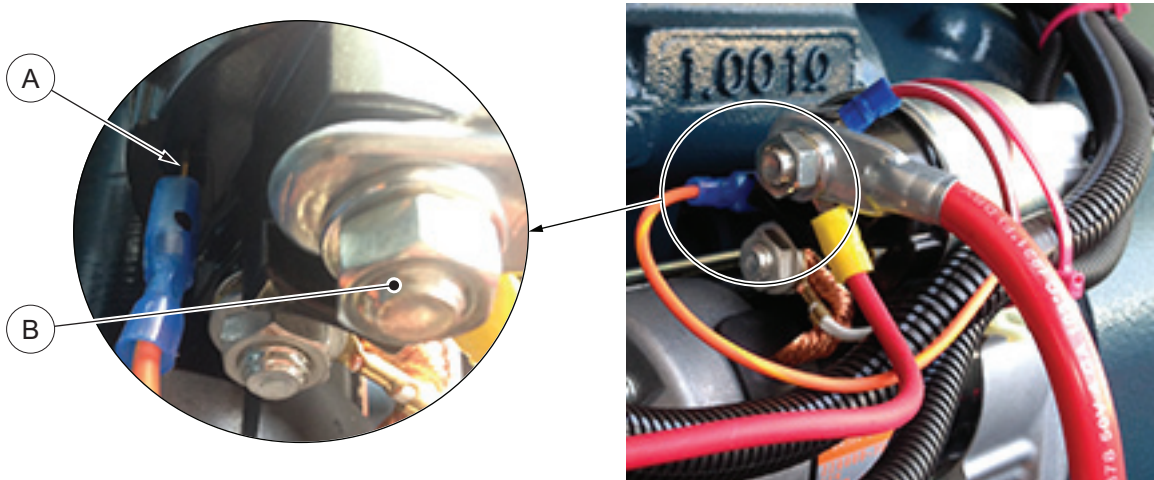

Figure 32 - Connection Points on Starter
- i. See Figure 32. Attach blue and yellow ring terminals to main starter stud.